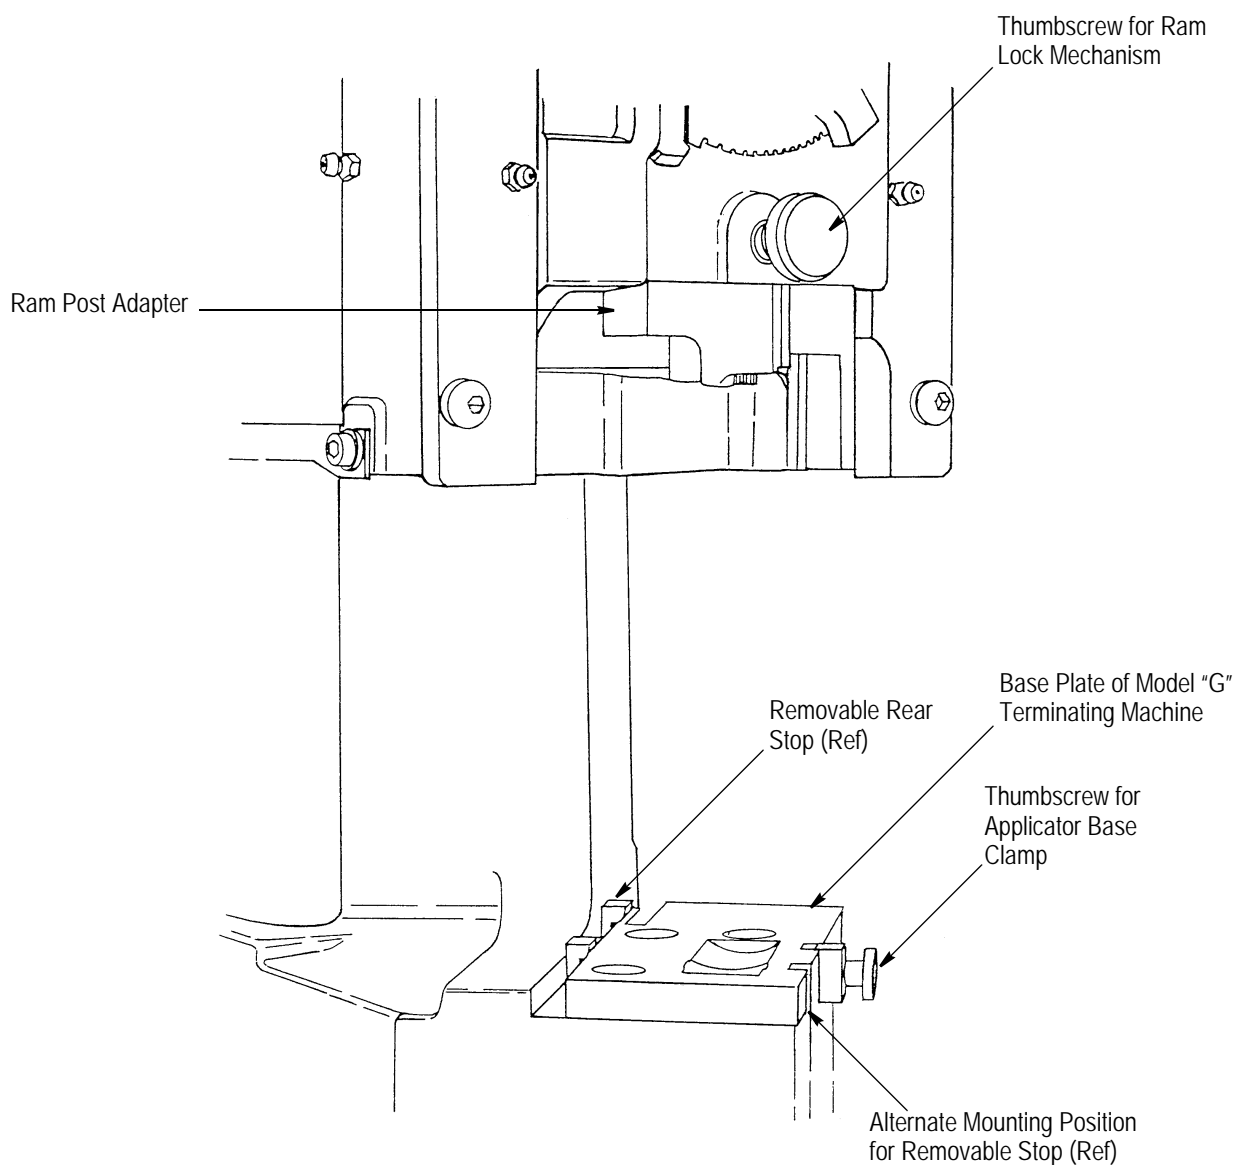

Figure 9
1. Loosen the thumbscrew on the applicator base clamp and slide the clamp down. See Figure 9.
When using Applicator 567200-1 (originally intended for the AMP-O-ELECTRIC Model "K" terminating machine), remove the thumbscrew for the applicator base clamp and the removable rear stop located on the right side of the base plate. Re-install the rear stop at the alternate mounting position on the base plate. Refer to Figure 9.